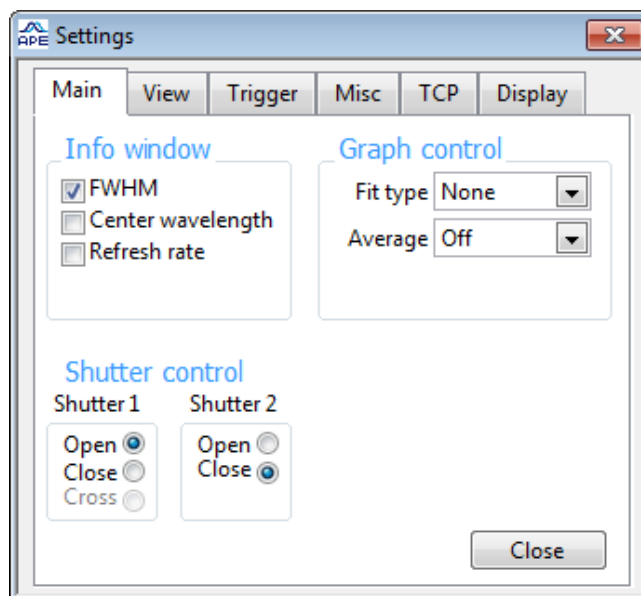

Figure 4.12.: "Main" tab of the "Settings" window with "shutter control"
14. Check beam alignment using the internal beam shutters. To do so, open the "Settings" window (double click into the measurement window or select "Settings" from the "Extras" drop down menu of the menu bar) and locate the "shutter control" section on the "Main" tab. (see Figure 4.12).